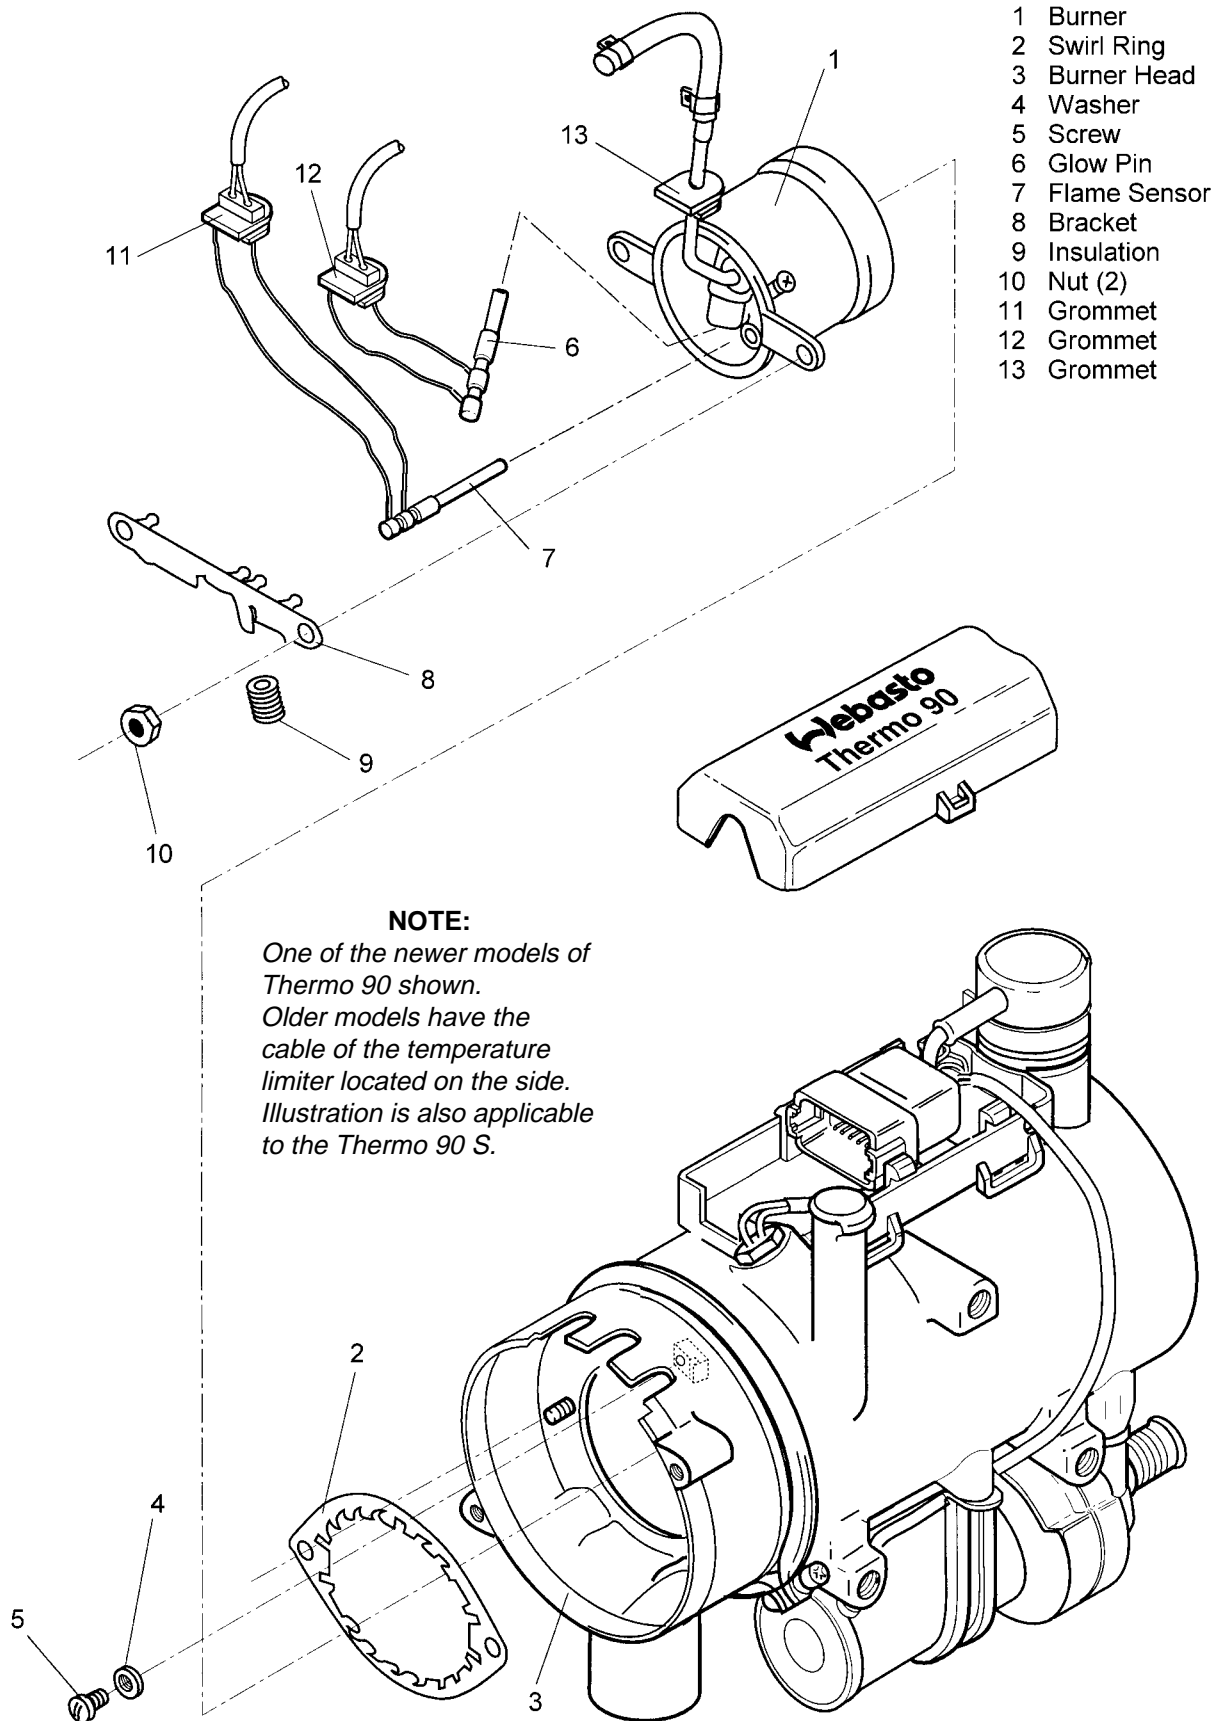

Fig. 9-5 Replacement of Burner, Flame Sensor, and Glow Pin
3. Remove screw (5, Fig. 9-5) and washer (4).
4. Remove nuts (10) and withdraw bracket.
5. Withdraw grommets (11 and 12) from slots in housing of combustion tube (3).
6. Withdraw grommet (13) and burner (1) from burner (1) and remove.
7. Pull flame sensor (7) and glow pin (6) out of burner (1) and remove.
1. Locate swirl ring (2, Fig. 9-5) on burner (1).
2. Carefully and fully insert flame sensor (7) and glow pin (6) into burner against stops and slide grommets (11 and 12) down slots in housing of combustion tube (3).
3. Position burner (1) and grommet (13) in burner head (3).